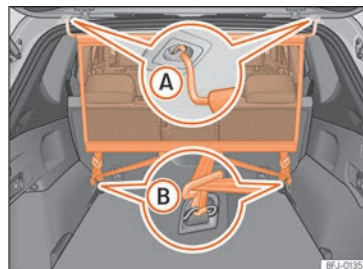

Fig. 168 Net partition fitted.
- Secure the net partition in the left housing of the roof »» Fig. 168 (A). Make sure to move the cross rod down beyond the upper position.
- Hook in the net partition on the rear right-hand side roof housing by pressing on the rod »» Fig. 168 (A).
- Secure two hooks of the partition net to the fastening rings of the boot »» Fig. 168 (B) and tighten the straps firmly.
- Release the net hooks from the fastening rings »» Fig. 168 (B).
- Unhook the net partition on the right-hand side roof support »» Fig. 168 (A) by pressing on the rod.